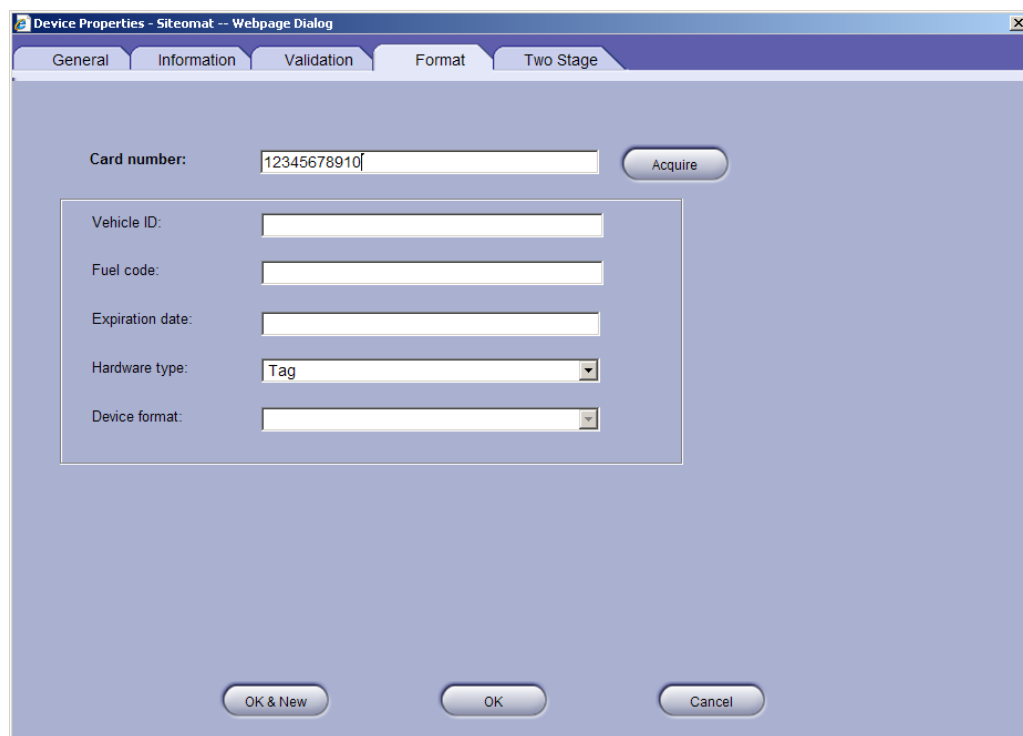

Figure 2-9. Device Properties – Format Tab
3. Click on the **Acquire** button on the Format tab in the FHO Device Properties dialog box (see Figure 2-9)